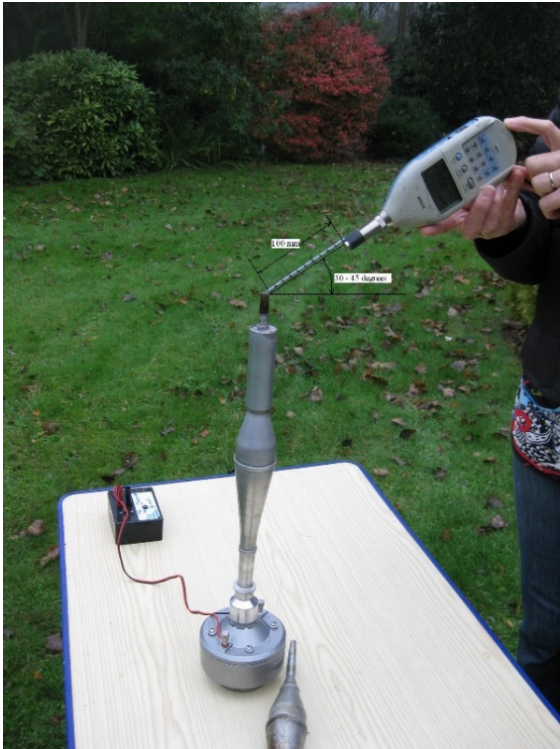

Fig. 2: Measurement of the exhaust system.
2. Measurement of the pipe plus silencer connected to the source @ 10cm, see fig.2 Y dB(A)